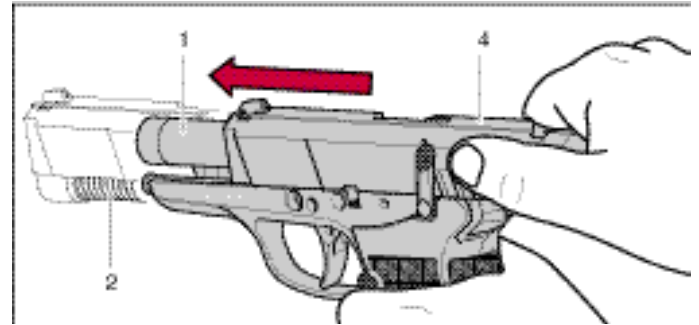

Fig. 10
7. Slowly ease the slide 4 forwards with your hand until the recoil spring unit 2 is released (Fig. 10).